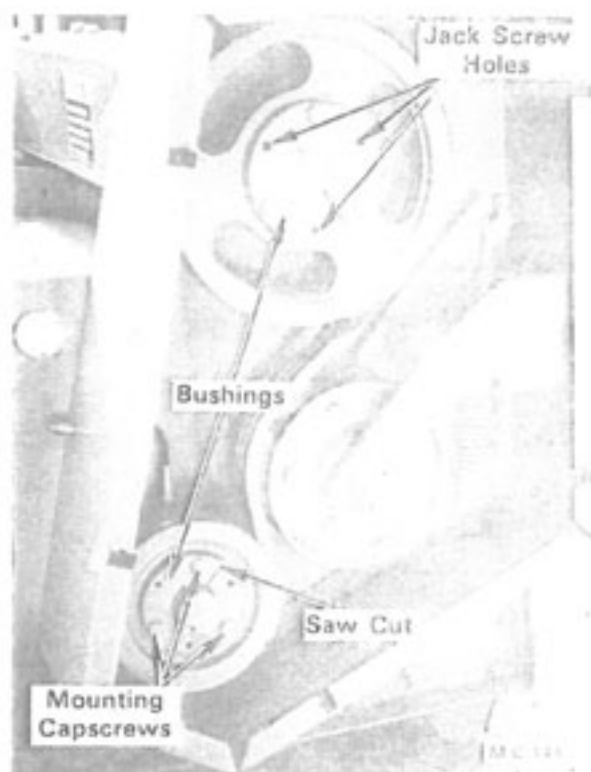

Figure 25
2. Remove the three mounting capscrews in the bushing, see Figure 25. Thread the capscrews into the three jack screw holes in the bushing. Tighten the three capscrews progressively and evenly until the bushing is loose on the shaft.